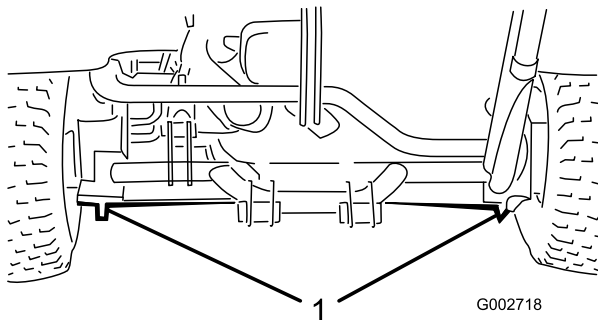

Figure 20
- Left or right side—under the rear wheel motor or the frame (Figure 20).